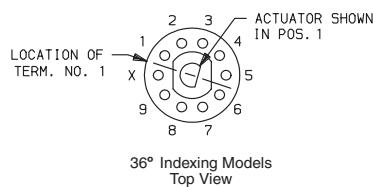
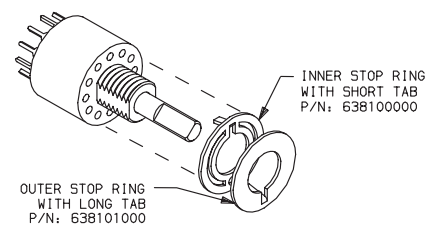

Fig. 4
Fig. 6
To set stops refer to figures 4 & 5. Orient switch so that terminal no. 1 is as shown. Turn actuator to pos. 1 using flats on bushing and terminal no. 1 as reference. See figure 6 and install inner stop ring with short tab in hole designated 'X'. Install outer stop ring with long tab in hole number corresponding to the number of positions desired. Note that all two pole models begin to repeat when actuated 180° or more. Use mounting nut and lockwasher to retain stop rings.